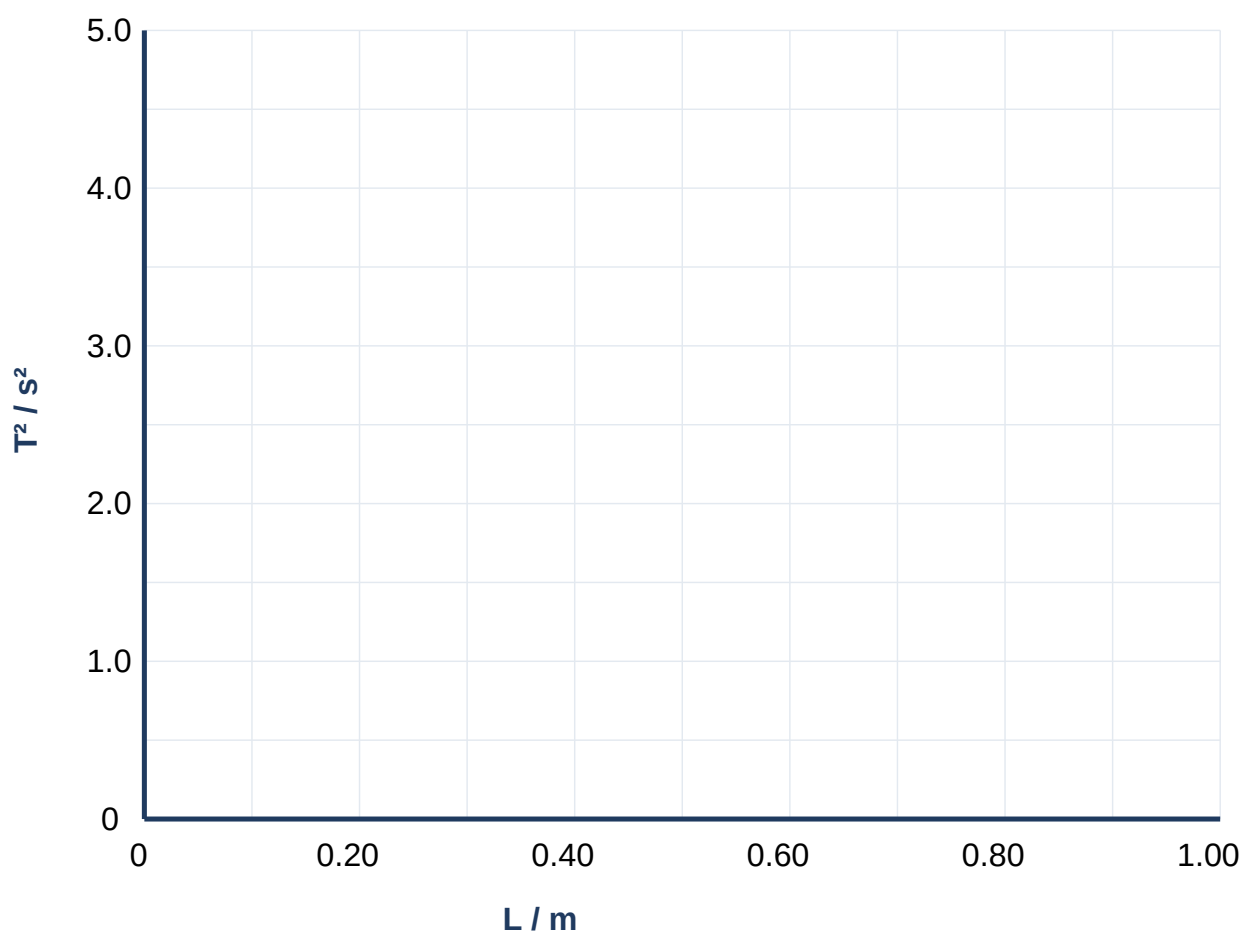

Fig. 2.2 — grid for plotting. (Each labelled square = 0.20 m on x, 1.0 s² on y.)
2. On the grid (Fig. 2.2), plot a graph of T^2 (y -axis) against L (x -axis) and draw the best-fit line. [3]